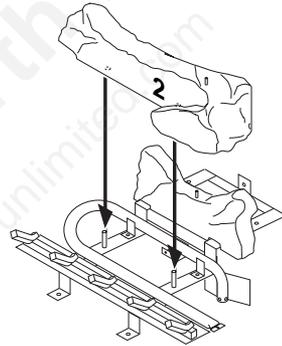

Figure 42 - Installing Log No. 2
2. Rest log #2 (front log) on pins on front part of grate (see Figure 42).